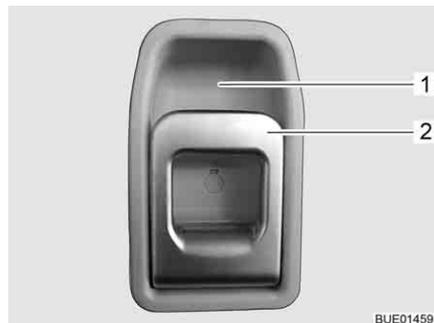

Fig. 46 Door lock of conversion door, inside
*Opening:* ■ Pull on the handle (Fig. 46,2). The door lock is unlatched.
*Locking:* ■ Press the upper part of the handle (Fig. 46,2) in the direction of the recessed handle (Fig. 46,1).